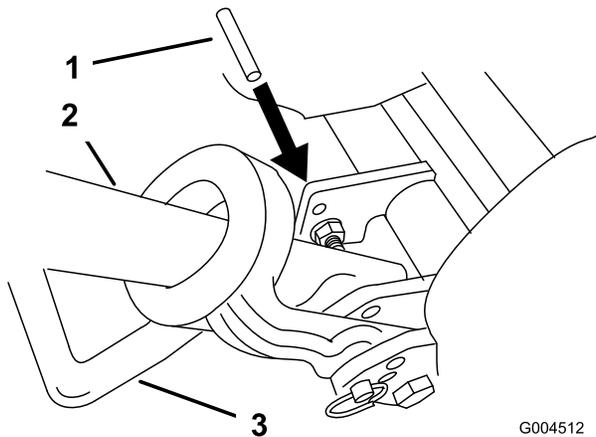

Figure 4
2. Lower kick stand. Insert a 1/4" dia. pin or equivalent into frame hole above kick stand mounting bolt (Figure 4).